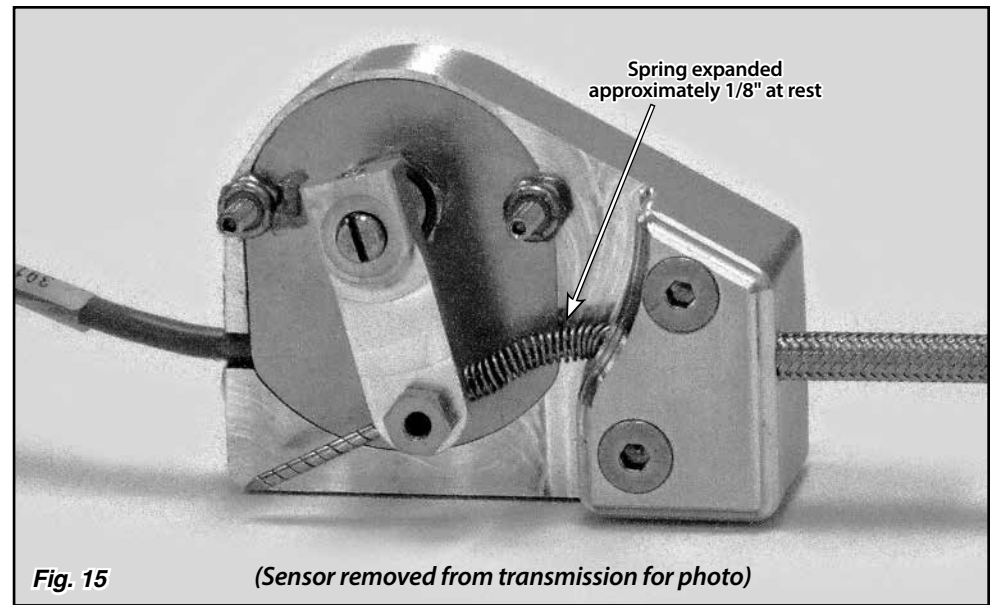

Fig. 15 (Sensor removed from transmission for photo)
- All applications with the trans arm pointing DOWN: Push the sensor arm as far as it will go until the spring is completely compressed. Then, let the spring expand approximately 1/8". Fig. 15 While holding that position, tighten the set screw in the index cable stop on the sensor arm using a 1/16" Allen wrench.